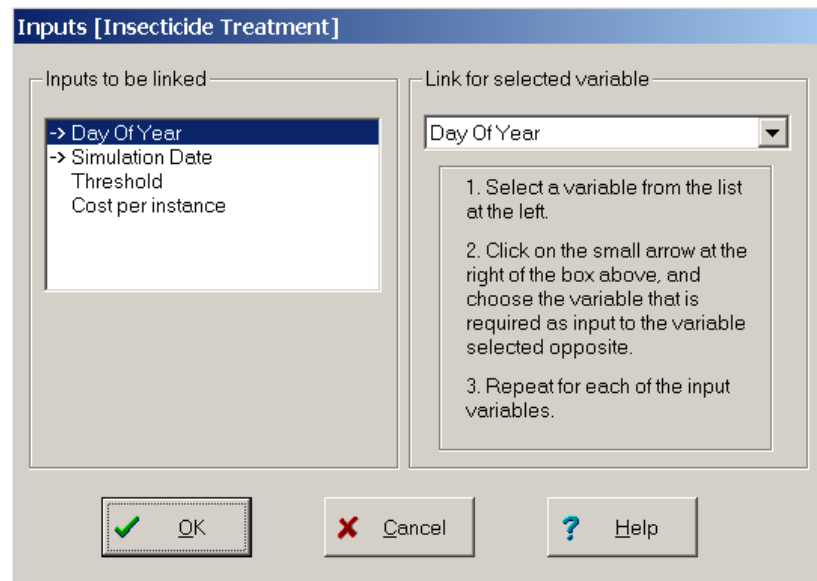

Figure 9-3 Event “Inputs” window
5. Select the “**Inputs**” button and obtain the link window (Figure 9-3)